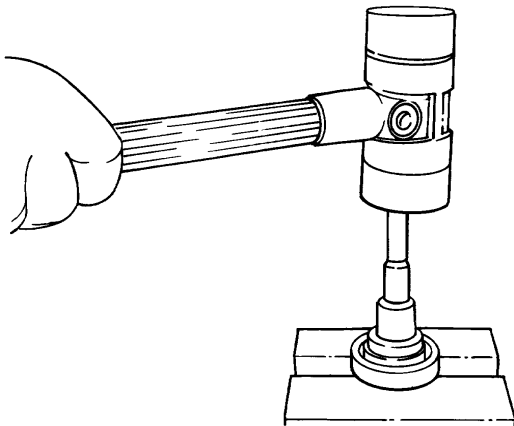

Figure 89 - Small and Large Bearings - Installation
- b. Install the small and large bearings on the coolant pump shaft (Fig 89).